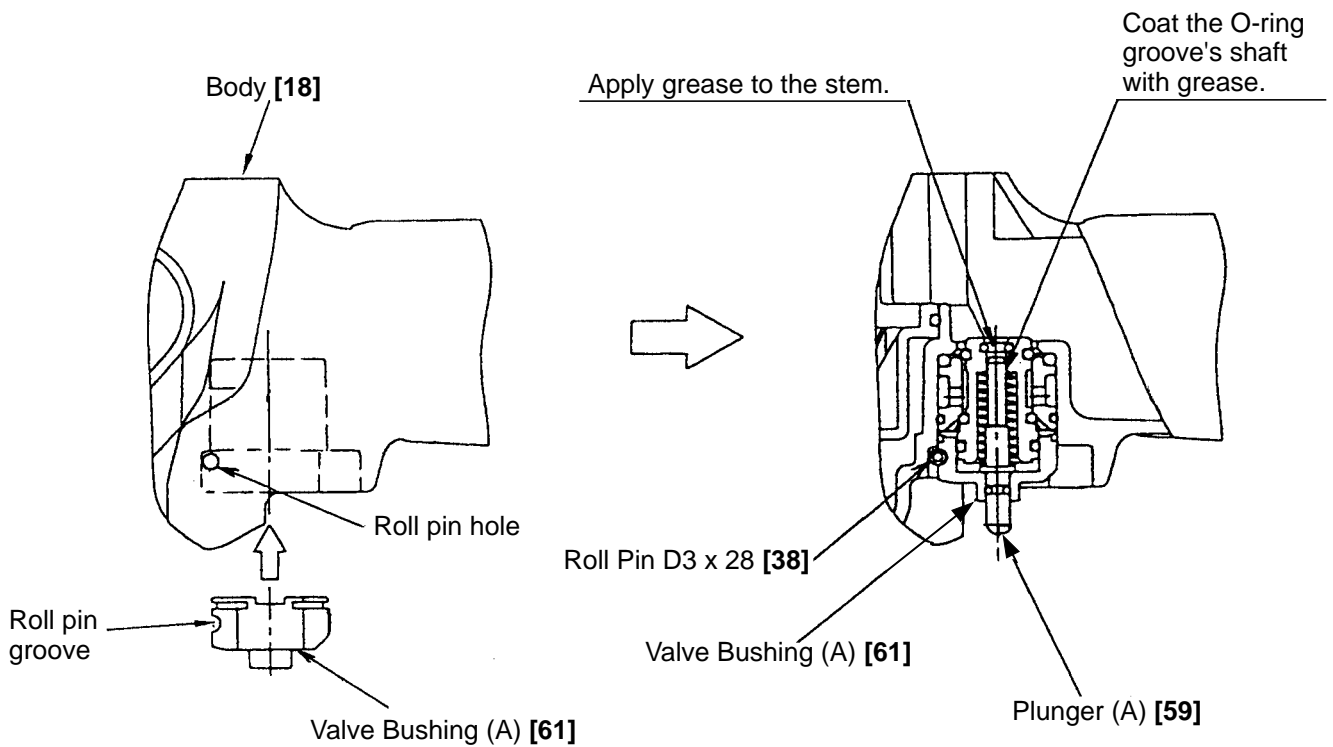

Fig. 17
- Thoroughly apply grease to the O-Ring (I.D 1.8) [60] on Plunger (A) [59], O-Rings (I.D 11) [56], (S-18) [54] and (S-4) [48] on Valve Piston (B) [57], and the shaft of Plunger (A) [59] as shown in Fig. 17.
- As shown in Fig. 17, install Valve Bushing (A) [61] so that the roll pin groove in Valve Bushing (A) [61] will be aligned with the roll pin hole in the Body [18]. First, insert a roll pin puller (3 mm (0.118") dia.) into the roll pin hole. Then, upon confirming that the puller passes through the hole, drive in the Roll Pin D3 x 28 [38].